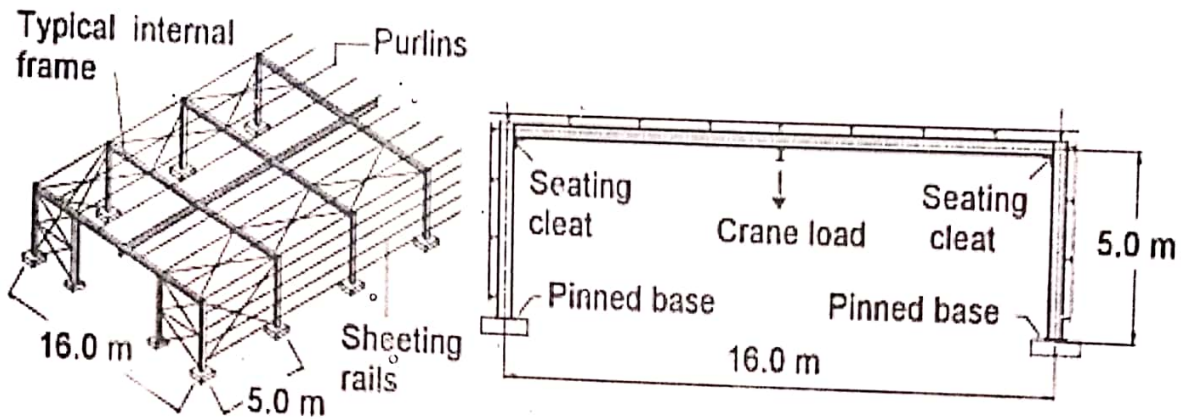

Figure 4
- (a) An industrial unit comprises a series of braced rectangular frames as shown in Figure 4 .8. A travelling crane is supported on a runner beam attached to the underside, at the mid-span point of the rafters. Using the design data provided, check the suitability of a 203 x 133 x 25 UB for the column of a typical internal frame, using the simplified approach. (20 marks)